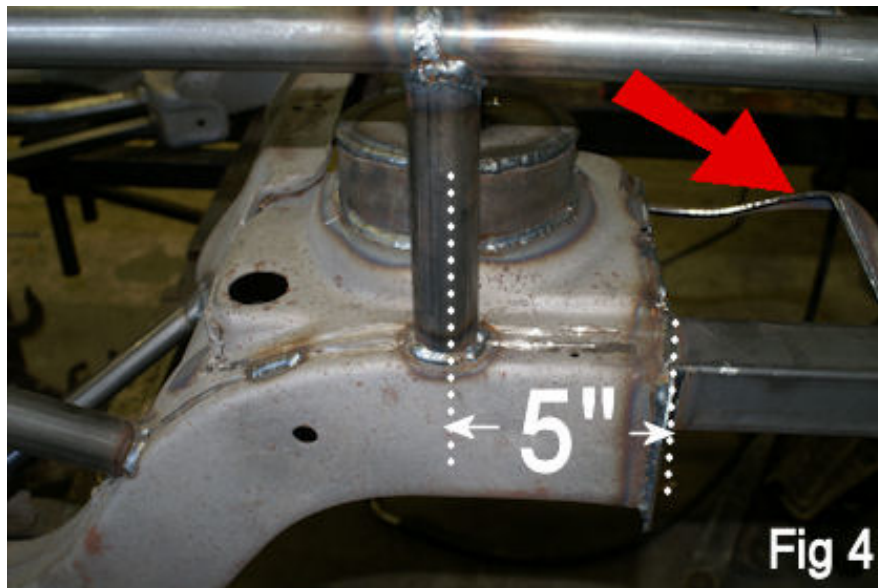

Fig 4
8. Rear section of original frame may be cut off no less than 5" behind center of spring bucket and replaced with tubing. No modifications can be made to original frame height, width, or thickness in this area. (See figure 4)
9. Original rear upper shock mount frame section must be in place and attached in stock location. Center may be cut out for shock clearance. (see red arrow in figure 4)